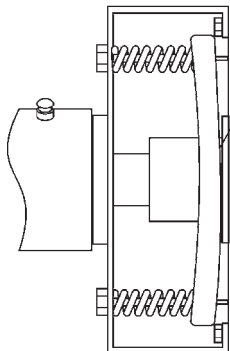

Figure 27. Replacing Drum Seals
3. Once the pressure plate touches the drum, its time to replace the graphite seals (Figure 27).